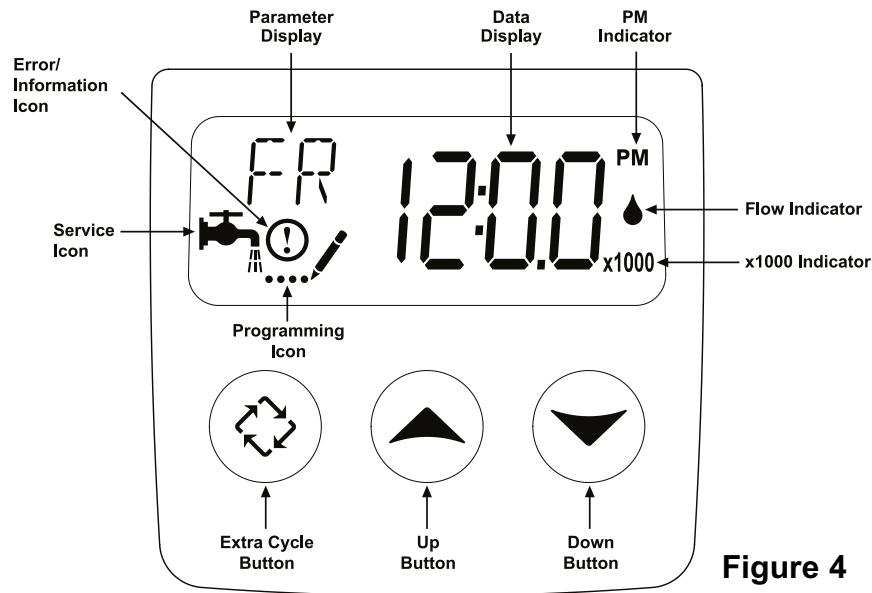

Figure 4
8. Plug the 24-volt transformer into a 120 VAC 60 Hz outlet. This valve has four positions: 1) Backwash 2) Brine/Rinse 3) Rapid Rinse and 4) Brine Refill. When the valve is in the Service position, the extra cycle button (far left button as shown on Figure 4) must be pressed and held for 5 seconds before it activates. Press and hold the extra cycle button for 5 seconds to advance the valve into the "1" Backwash position. Slowly turn on the water supply and allow the unit to backwash until the air purges out of the tank and clears the system.